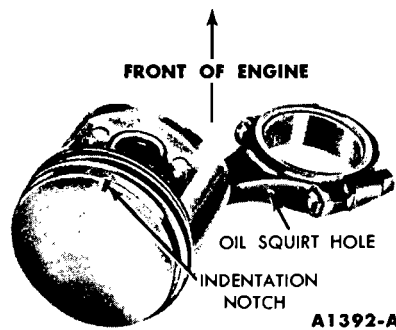

FIG. 48—Typical Piston and Connecting Rod Assembly
1. Apply a light coat of engine oil to all parts. Assemble the piston to the connecting rod with the oil squirt hole in the connecting rod and the indentation in the piston positioned as shown in Fig. 48.